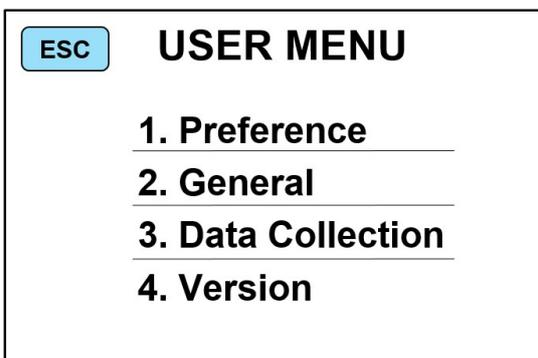
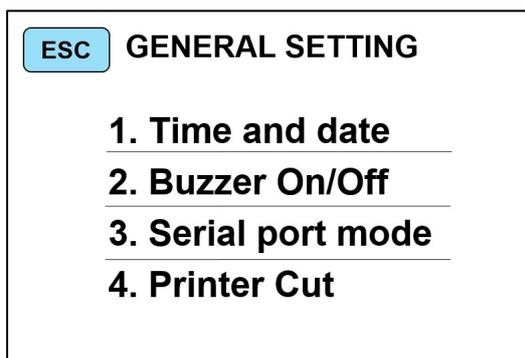

Figure 26
Figure 45
1) Press the “” key to enter the main interface of USER MENU, as shown in Figure 26 below. Press “**2.General**” to enter into GENERAL SETTING interface as Figure 45: